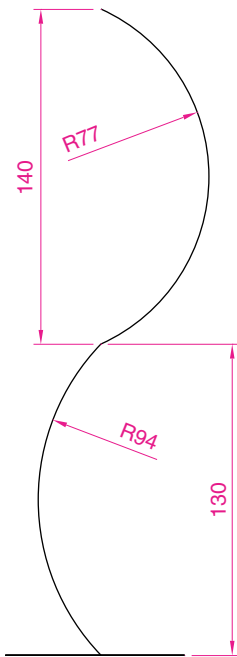

Fig. 13.37 Example **Sweep** – the pline path
2. Change to the **3D Views/Front** view, **Zoom** to **1** and construct a pline as shown in Fig. 13.37 as a path central to the ellipse.